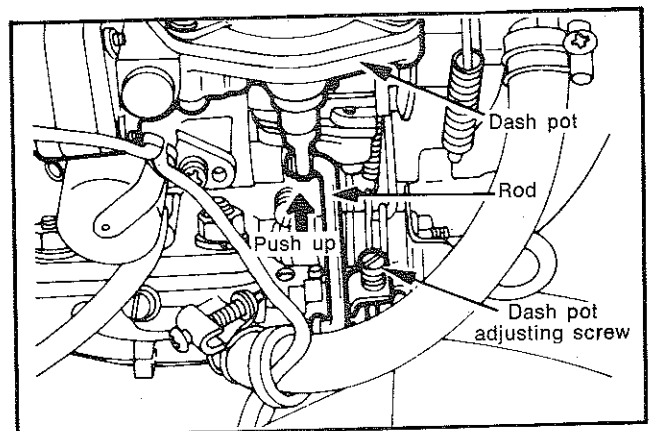

Fig. 13—Constant vacuum dash pot adjustment
(1) With the engine running, push up on the lower end of the dash pot rod until it bottoms. The engine speed should be nominated in the chart below. If not, reset the speed using the dash pot adjusting screw (Fig. 13).
(2) Release the rod, the engine speed should drop, as nominated in the chart below. Replace a dash pot that fails to meet this specification.